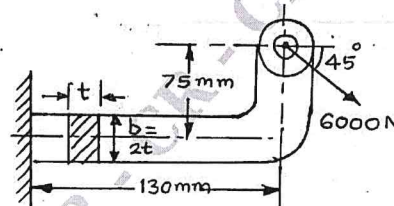

Fig. Q1 (a)
- 1 a. A mild steel bracket as shown in Fig. Q1 (a) is subjected to a pull of 6000 N acting at 45° to the horizontal axis. The bracket has a rectangular section whose depth is twice the thickness. Find the cross sectional dimensions of the bracket, if the permissible stress in the material of the bracket is limited to 60 MPa. (10 Marks)
- b. A point in a structural member is subjected to plane stress is shown in Fig. Q1 (b). Determine the following: